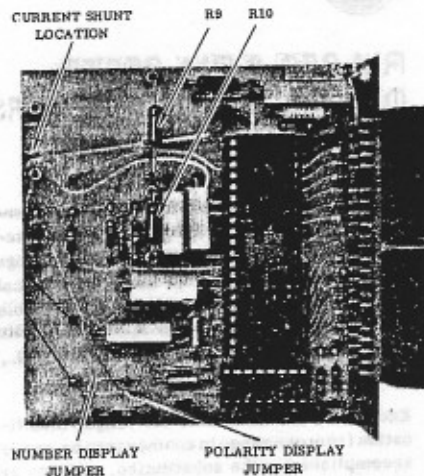

Figure 5. Component Location
- Polarity Display:** To blank the polarity display, an internal jumper may be removed (figure 5). To dim the polarity display, the internal jumper may be replaced by a resistor. The value of the resistor is best determined experimentally by the brightness desired. For instructions on removing meter from case refer to the paragraph on RANGE MODIFICATION. The polarity display may also be dimmed or blanked by external connections. First remove the internal jumper. Dimming is then accomplished by connecting a resistor between pins 11 and 12 of the mating connector. Full brightness is obtained by connecting a jumper between these pins.
3. Polarity Display. To blank the polarity display, an internal jumper may be removed (figure 5). To dim the polarity display, the internal jumper may be replaced by a resistor. The value of the resistor is best determined experimentally by the brightness desired.
4. Number Display. The number display may be blanked or dimmed in the same way as the polarity display (see Figure 5).
6. Observe resistor values for R9 and R10 and compare to figure 5 and Table III.
A shunt resistor may be plugged in to the terminals shown in figure 5 to permit current measurement. Alternatively, an external shunt resistor may be connected between signal high and signal low; for current measurement, the meter should be connected in the 200mV or the 2 V range, depending on the full scale voltage drop which can be tolerated. Table IV shows the shunt resistor value required. The accuracy of measurement will be determined largely by the accuracy of the shunt resistor.